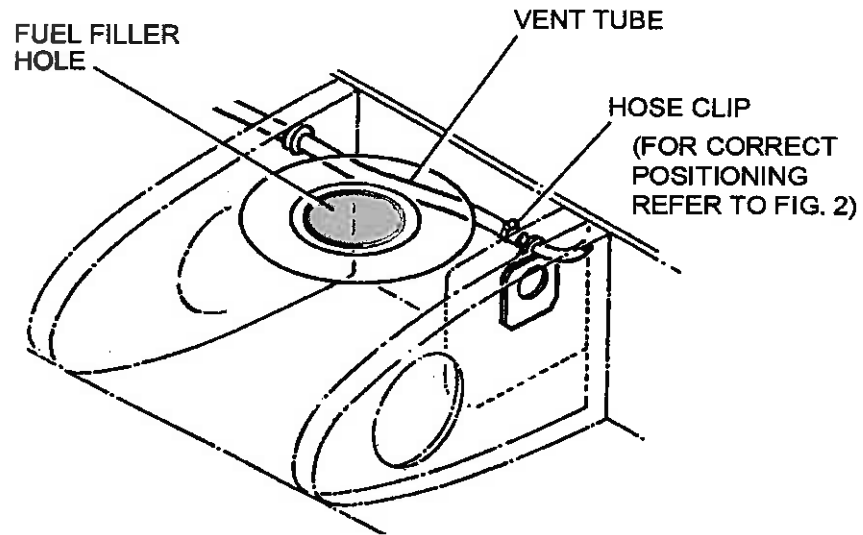

Figure1 Wing Tank Fuel Vent Pipe
2. Using a mirror and a torch (if required) observe fuel vent tube, ref Figure 1.